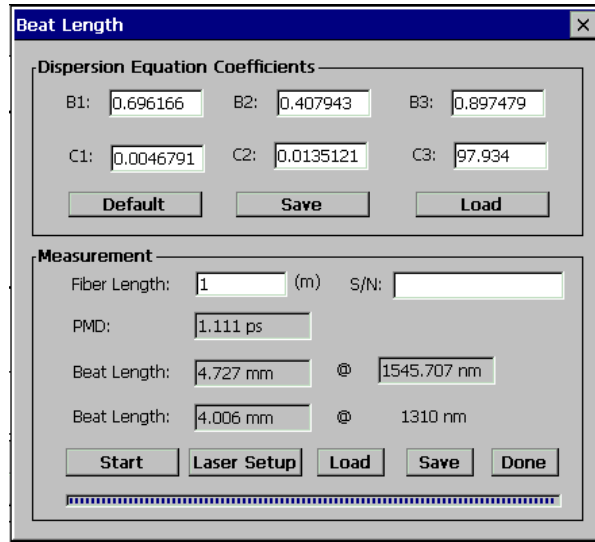

Figure 41 Beat Length Measurement Interface
- After the laser type and scanning wavelength range are set up, click the “**OK**” button to save the laser setup and bring up the beat length measurement interface (Figure 41). Since the beat length is calculated from measured DGD, the laser scan parameters should be chosen according to the expected DGD of the fiber under test.